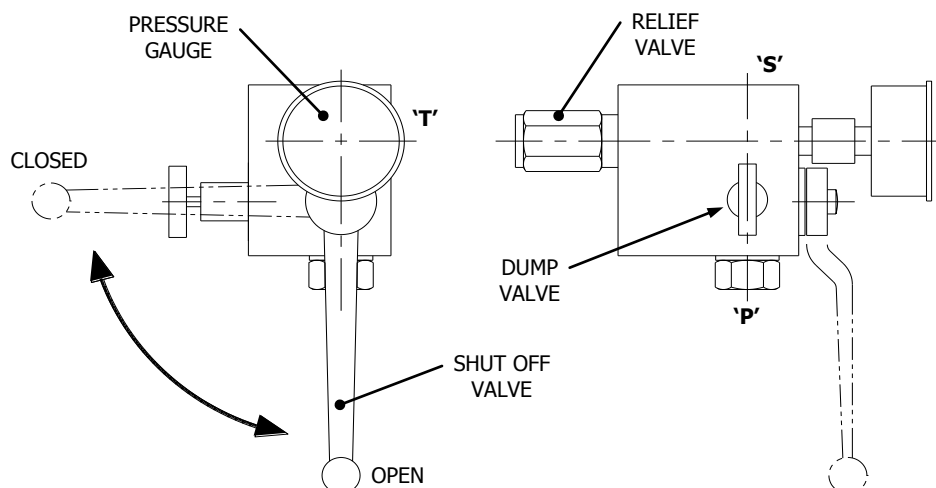

Figure 8.16: Accumulator Safety Block
- With zero hydraulic pressure in the accumulator, isolate from the rest of the system by rotating the shut off valve to 'OFF' (closed). Refer to figure 8.16: Accumulator Safety Block.
- At accumulator safety block gradually open dump valve to discharge oil back to the reservoir, until pressure gauge reads zero. Refer to figure 8.16: Accumulator Safety Block.